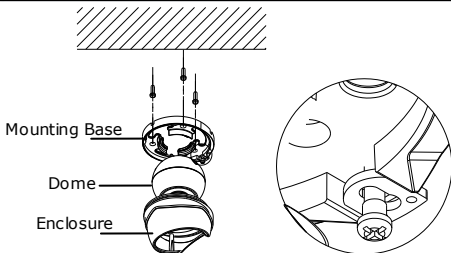

Figure 2-8 Fix the Mounting Base
5. Install the dome to the mounting base and then install the enclosure Figure 2-8.